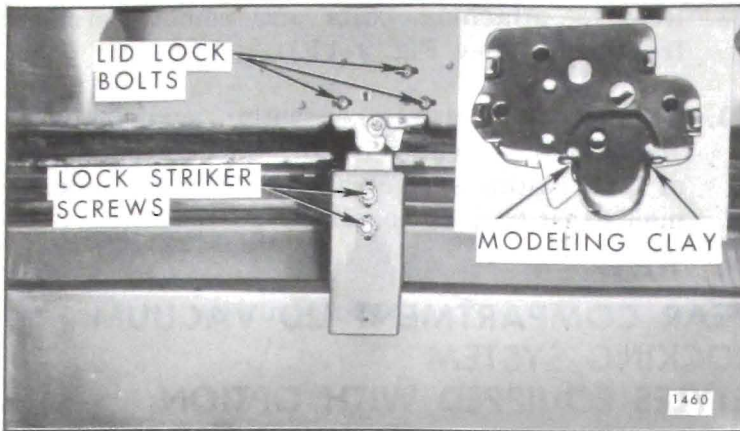

Fig. 9-14—Rear Compartment Lid Lock and Striker
3. Remove rear compartment lid lock attaching bolts and remove lock from lid (Fig. 9-14 and 9-15).
2. Remove striker attaching screws and remove striker (Fig. 9-14 and 9-15).
1. Insert a small quantity of modeling clay on frame of lock at both sides of the lock bolt (Figs. 9-14 and 9-15). Close lid with moderate force.